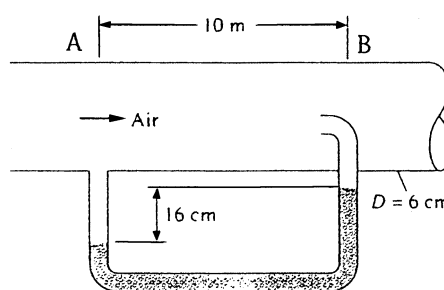

Fig. P6.138
6.138 An engineer who took college fluid mechanics on a pass-fail basis has placed the static pressure hole far upstream of the stagnation probe, as in Fig. P6.138, thus contaminating the pitot measurement ridiculously with pipe friction losses. If the pipe flow is air at 20°C and 1 atm and the manometer fluid is Meriam red oil (SG = 0.827), estimate the air centerline velocity for the given manometer reading of 16 cm. Assume a smooth-walled tube.